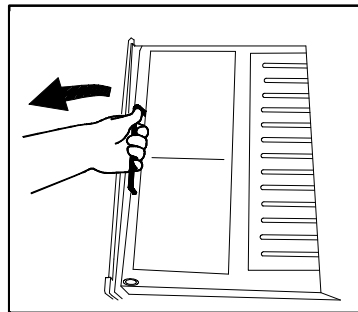

FIGURE 3-14: UNFOLD FRONT PLATFORM SECTION
- 4) Refer to **Figure 3-14**. Grasp front section handle (located at left side of front platform section) with left hand and begin to unfold front section. When it is vertical, release left hand and grasp top edge with right hand. Finish unfolding.